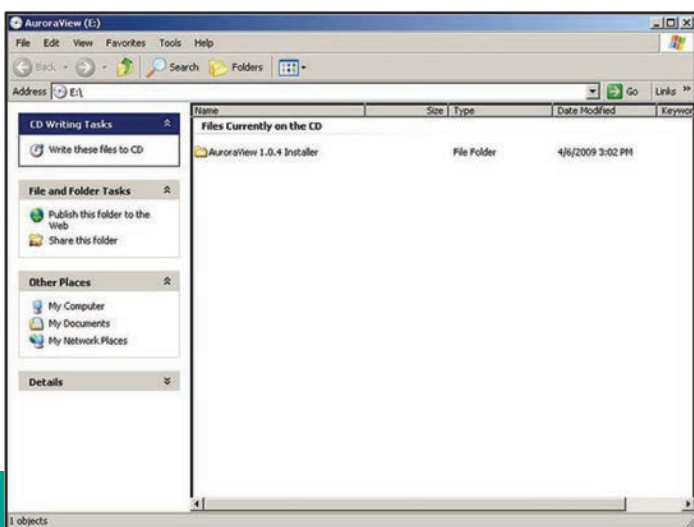

Figure 46: Initial screen
2. The installation program should launch automatically (see *Figure 46* below). If it does not, select start → run → browse.